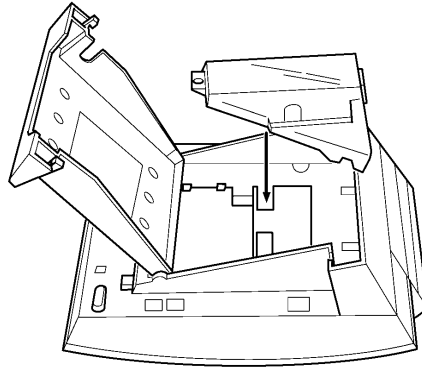

Figure 6-53: Attaching the Unit to the Multiline Terminal
3. Plug the unit into the receptacle connector inside the base plate on the Multiline Terminal. Refer to *Figure 6-53: Attaching the Unit to the Multiline Terminal*.